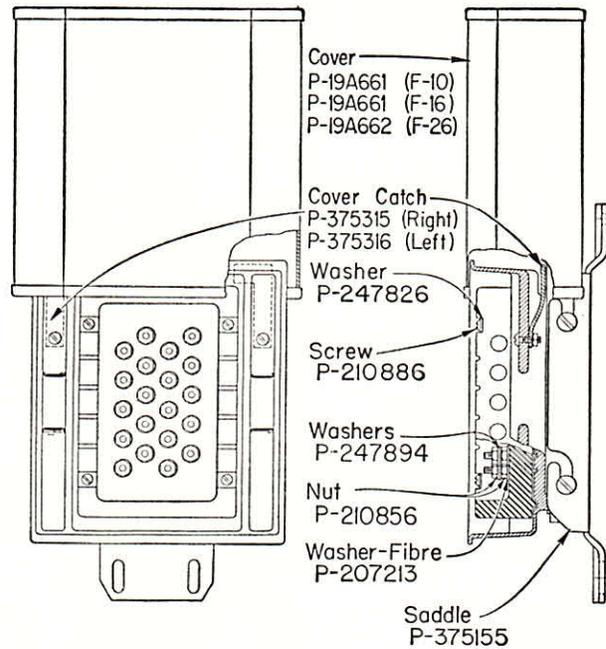

Fig. 3
4.01 Parts are indicated in Fig. 3.